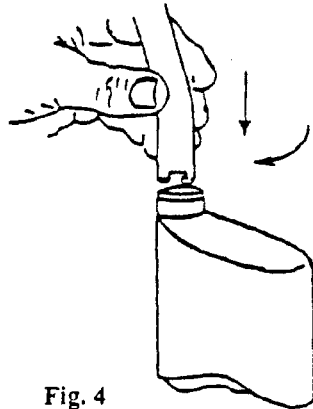

Fig. 4
6. Lock spray tube in by pushing down in opening, then rotate clockwise. Correctly installed tube will face front of bowl (See Fig. 4).